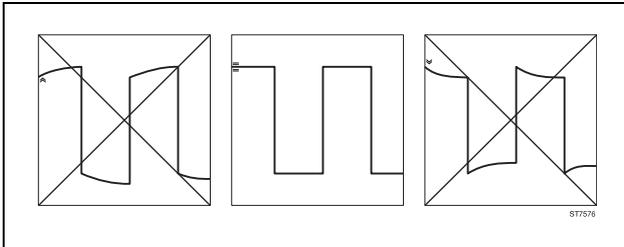

Figure 9-3 Adjusting the Probe
8. Adjust the trimmer screw in the probe housing of INPUT A to give an optimum square wave within the equal markers on the display (see Figure 9-3).